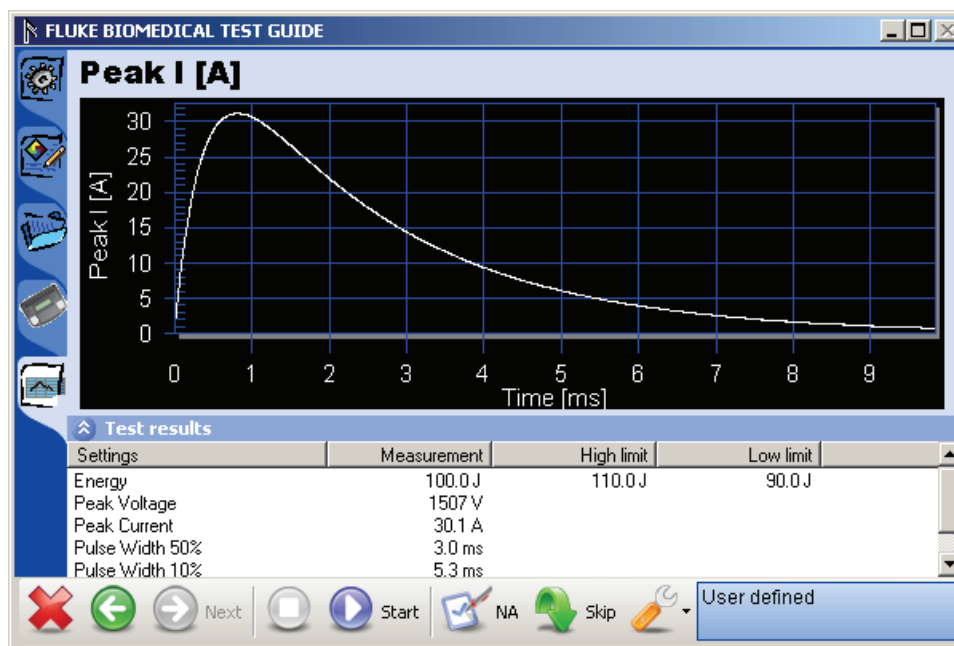

Figure 3-2. Graph of Discharge Curve
1. First connect the defibrillator to the Analyzer (refer to the *Impulse 6000D/7000DP Users Manual* for connection instructions) and set the defibrillator to the energy setting displayed in the information block in the right pane of the **TEST GUIDE** window. Figure 3-2 shows an energy setting with both high and low limits (in Joules).
6. To view a graph of the discharge curve, as shown in Figure 3-2, click the graph tab located along the left side of the **TEST GUIDE**.